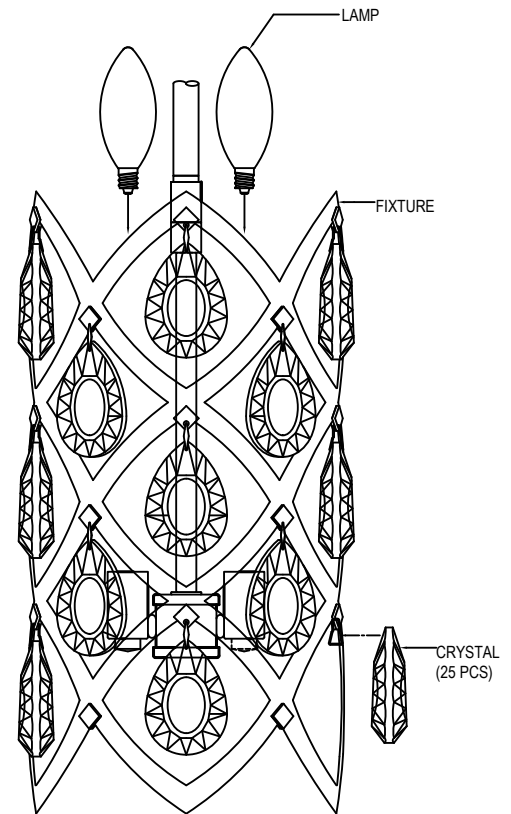

FIGURE-2
- Hang the crystals following the crystal schedule as seen in figure-2.